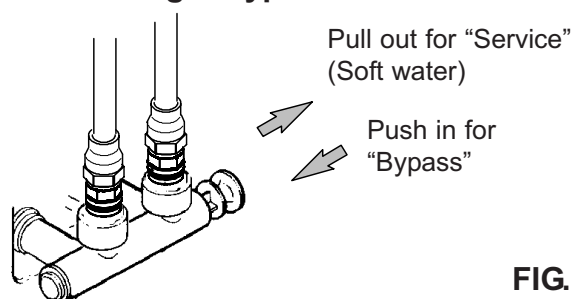
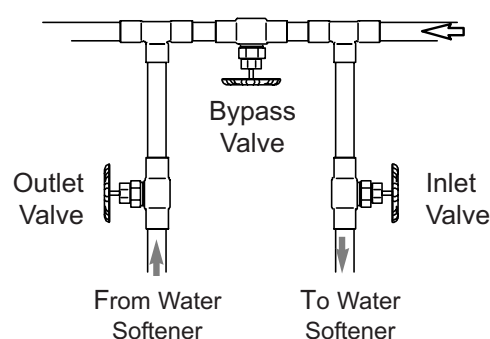

FIG. 8
FIG. 9
Always install either a single bypass valve (provided), as shown in Figure 8, or, if desired, parts for a 3 valve bypass system (not included) can be purchased and assembled, as shown in Figure 9. Bypass valves allow you to turn off water to the softener for maintenance if needed, but still have water in house pipes.
CAUTION: The house cold water pipe (metal only) is often used as a ground for the house electrical system. The 3-valve bypass type of installation, shown in Figure 9, will maintain ground continuity. If you use a plastic bypass valve at the unit, continuity is broken. To restore the ground, do the following:
2. Place the single bypass valve or 3 valve bypass in "bypass" position. See Figures 8 & 9 in "Plan The Installation" section.